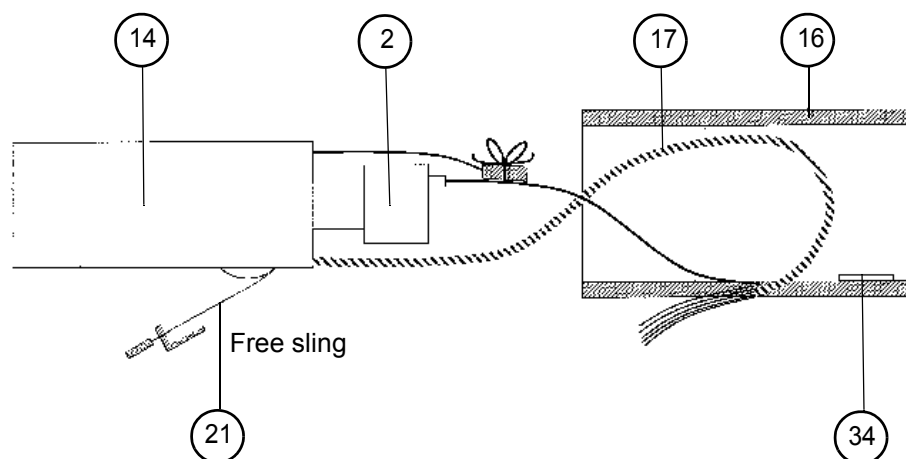

Figure 15
- Put the sling support at the end of the two in slings (Figure 15).